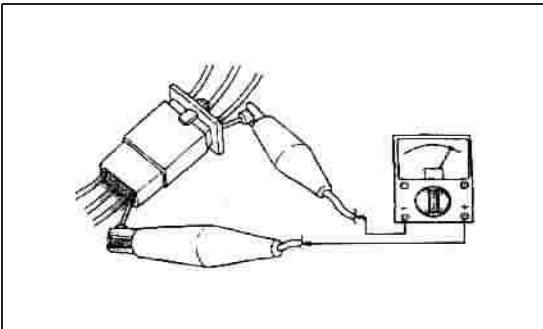
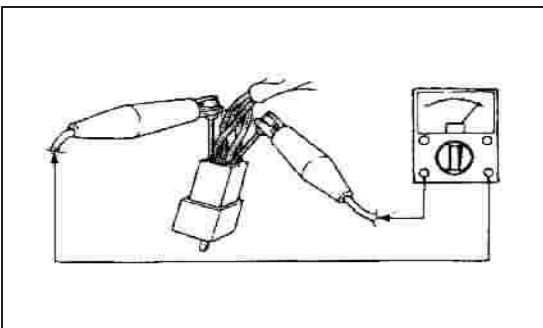

Fig.7.3
Fig.7.4
a. Grip two terminals of connector together, check with the multimeter. (see fig.7.3, fig.7.4)